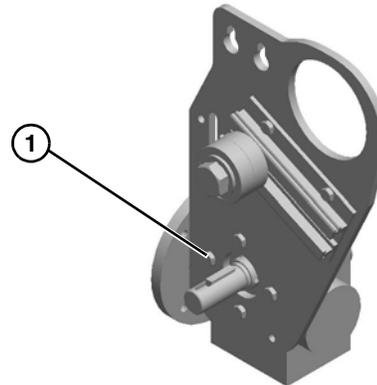

Figure 37
- Install gear reducer to mounting bracket and tighten bolts (**Figure 37, item 1**) to 110 in-lb (12 Nm).